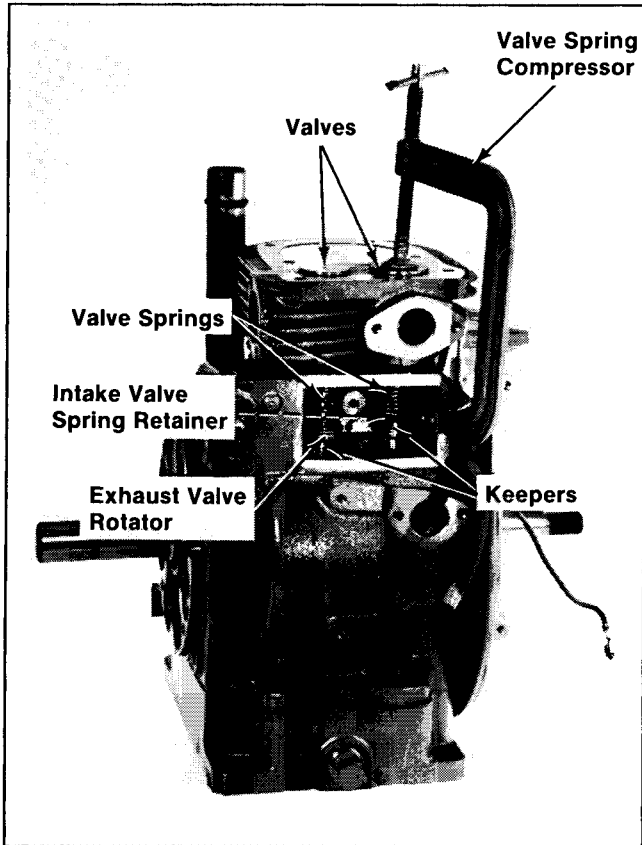

Figure 12-40. Installing Valves - K91, K161 And K181.
4. On Models K91, K161 and K181, install the valve springs (close coils to top), intake valve spring retainer, exhaust valve rotator or retainer, and valves. Refer to Figure 12-40.